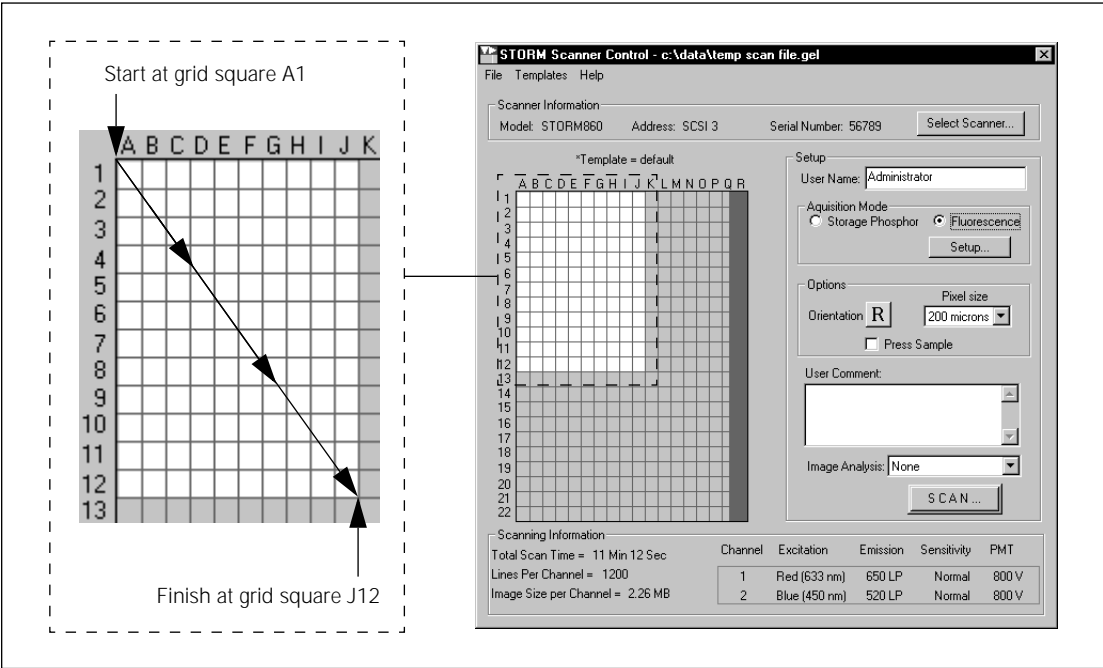

Figure 9-3. Selecting the scan area.
2. Drag the pointer to the grid square corresponding to the lower right corner of the area you want to scan (figure 9-3).